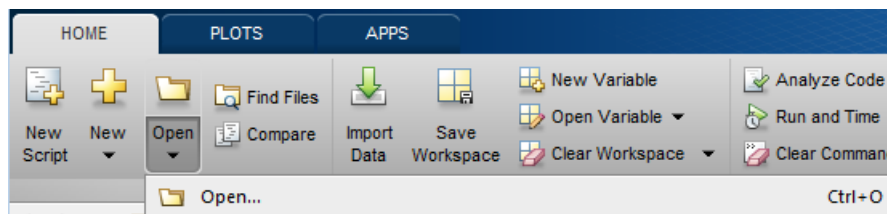

Figure 270: Open the System Generator Design
2. When Matlab invokes, click the **Open** toolbar button (Figure 270).